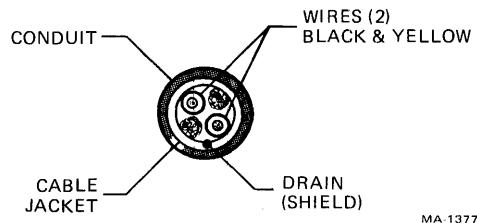

Figure 4-1 Cable Check Points for Shorts
4. Measure both open and short circuit resistance of that cable section. Refer to Figure 4-1 and check for shorts between: